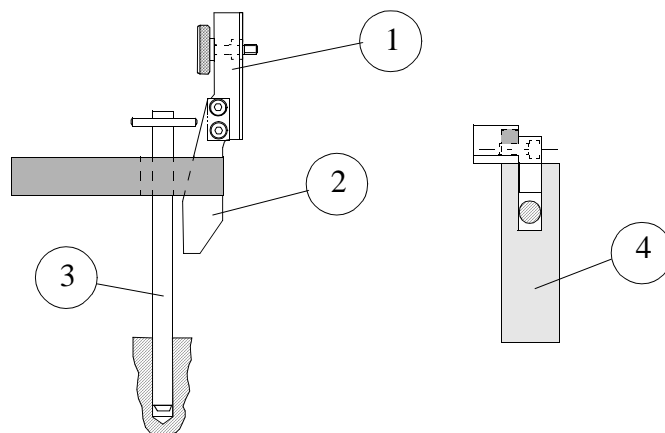

Figure 20 Aligning the pin and stop with the calibration tool for axis 1.
6. Align the pin and stop with the calibration tool. See Figure 20.